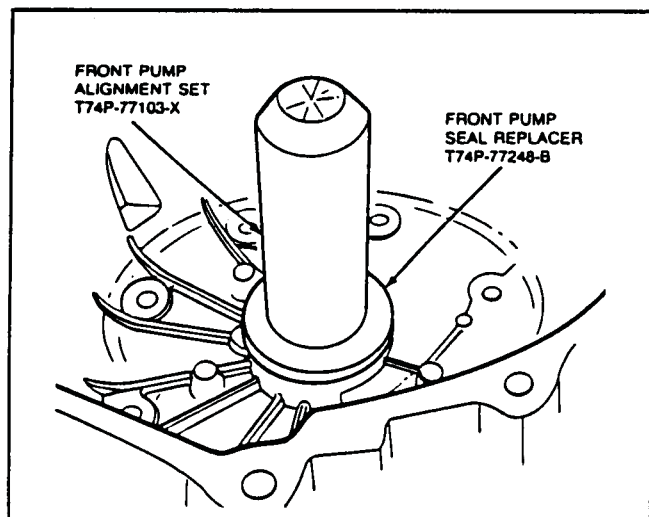

FIG. 41 Installation of Pump Oil Seal
1. Pump Seal Replacer T74P-77248-B or equivalent (Fig. 41).